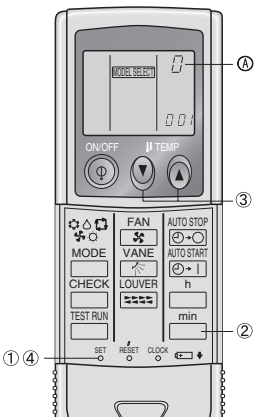

Fig. 6-5
3) Assigning a IR wireless remote controller to each unit (Fig. 6-5)
4) IR wireless remote controller pair number setting operation (Fig. 6-5)